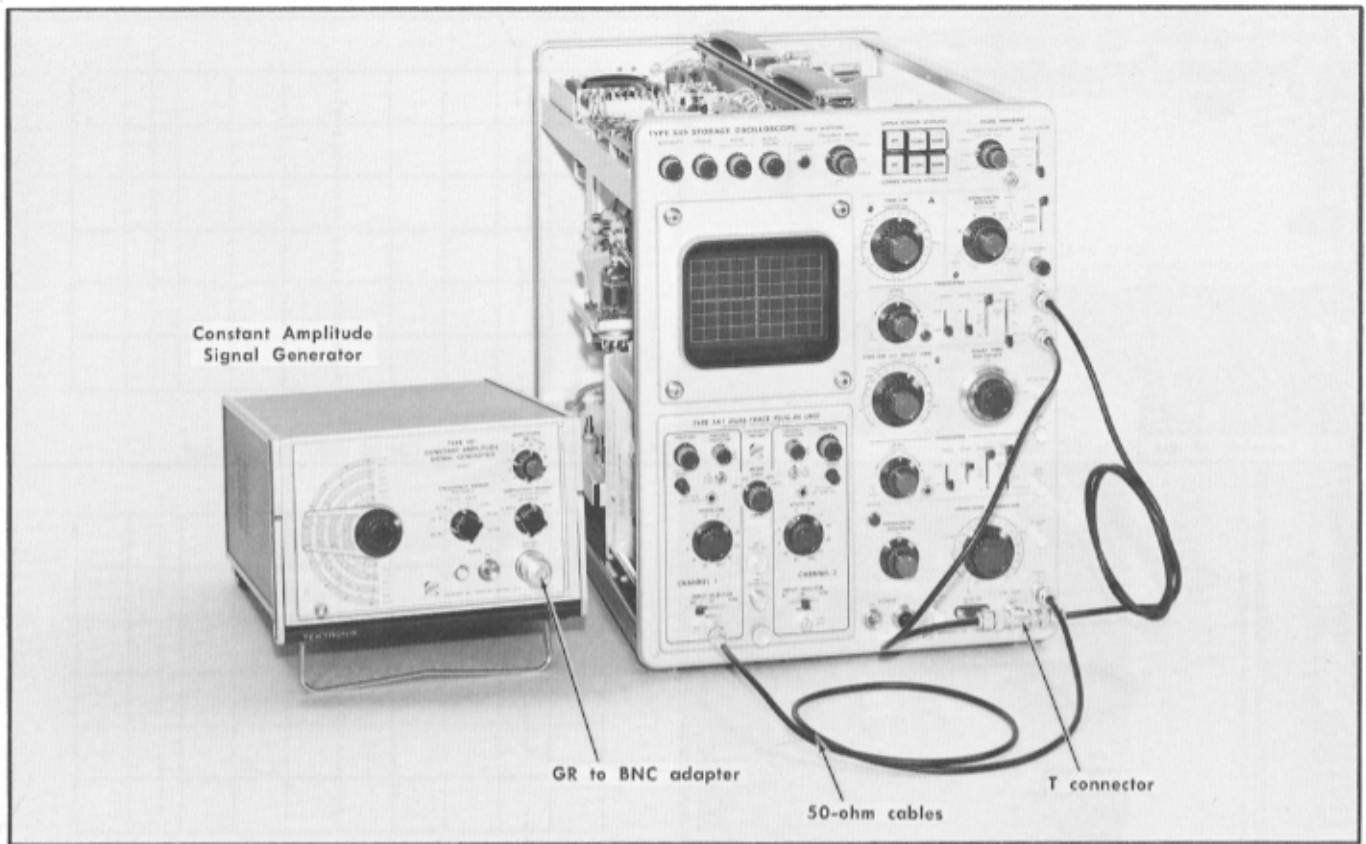

Fig. 6-41. Equipment setup for steps 48 through 51.
48. Adjust External Horizontal DC Balance ①
- Equipment setup is shown in Fig. 6-41.